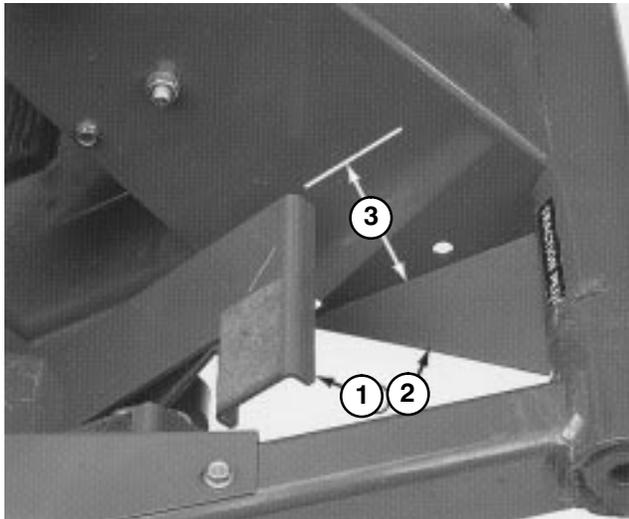
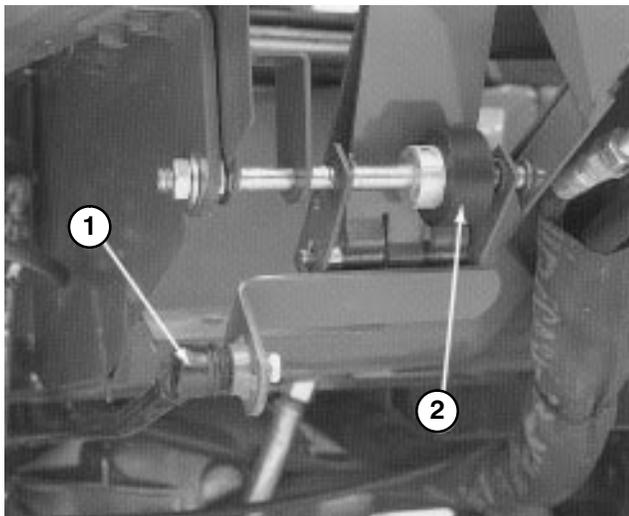

Figure 50
Figure 51
2. Press down on front of traction pedal and check travel. There should be approximately 3.50" clearance between end of pedal and floor plate when pedal is fully depressed (Fig. 50). Adjust pump control rod (Fig. 51) to attain dimension.
1. Loosen nut securing traction pedal shaft on right side of pedal (Fig. 51).